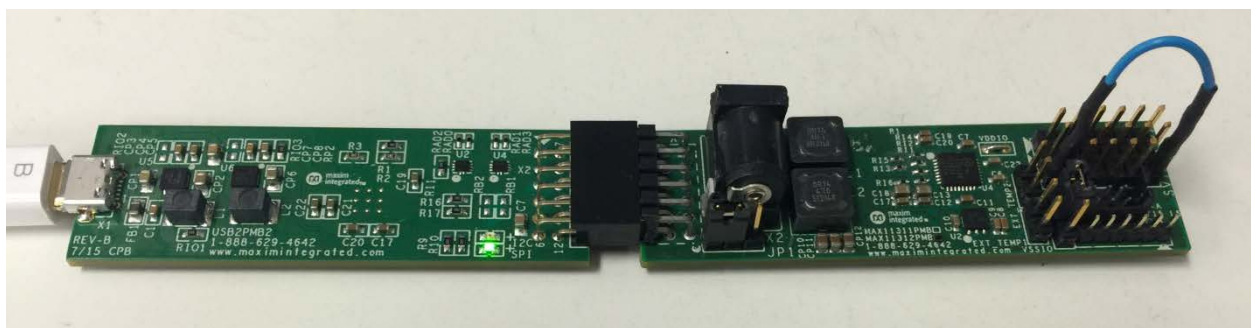

Figure 25. P0 connected to P5.
- Use a jumper wire to connect P0 to P5 as shown in **Figure 25**.